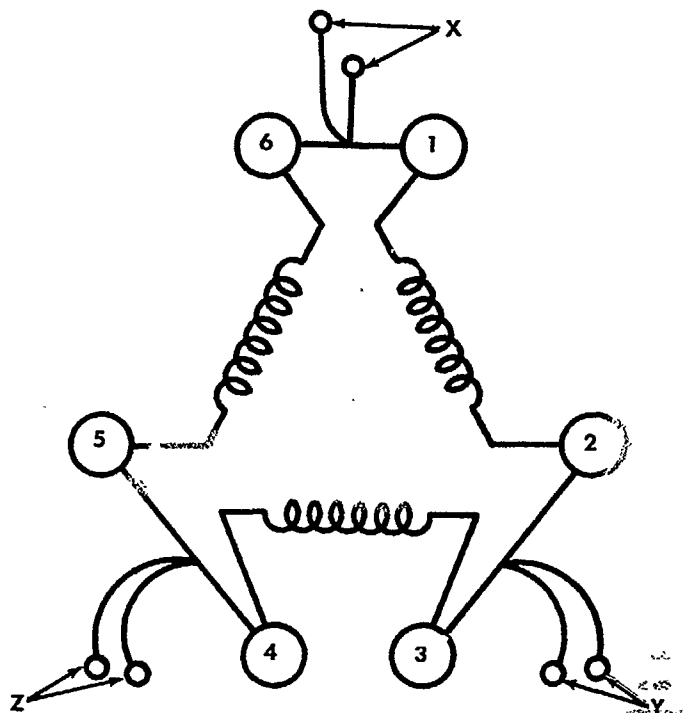

Figure 47
2. The Delta wound stator, used in 55 ampere alternators, terminates the ends of the three windings to form three junctions of two conductors each, as shown at X, Y, and Z, Figure 47.